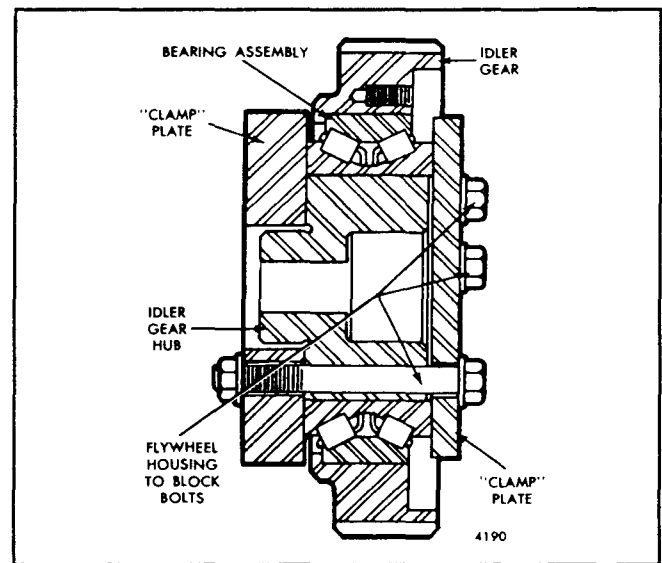
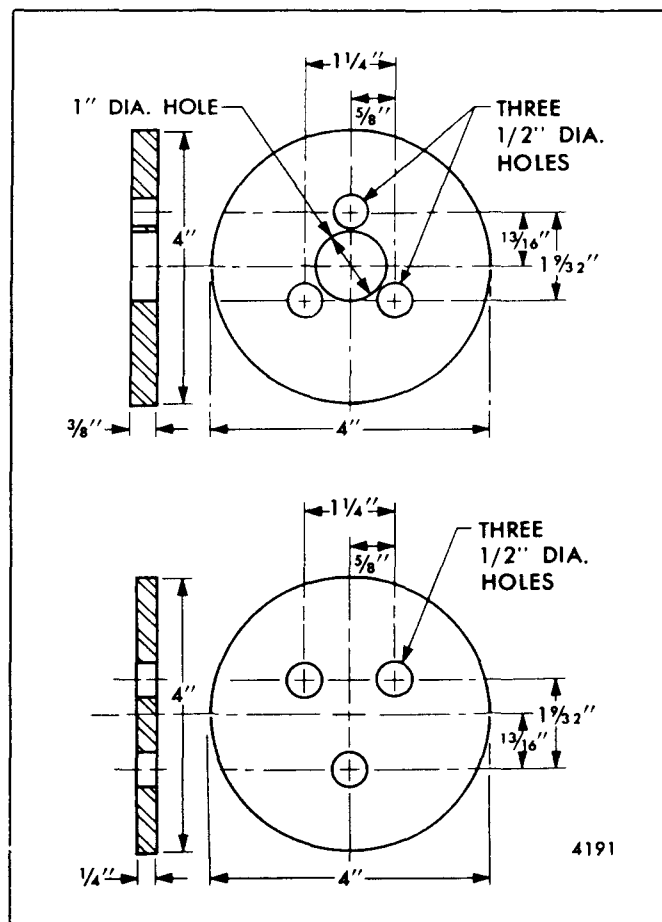

Fig. 10 - Fixture for Testing Bearing Pre-Load
Fig. 11 - Plates for Bearing Test Fixture
3. Place the steel plate (lower plate shown in Fig. 11) against the hub and bearing. Insert two 3/8"-16 bolts and one 5/16"-18 bolt through the plate and thread it into the cylinder block. Tighten the two 3/8"-16 bolts to 40-45 lb-ft torque and the 5/16"-18 bolt to 19-23 lb-ft torque.
If the crankshaft and camshaft gears are mounted on the engine, a suitable fixture which may be held in a vise can be made as shown in Fig. 10 with two plates as shown in Fig. 11. One of the plates is used to take the place of the flywheel housing and the other the cylinder block. *Engine - mounted* conditions are simulated by tightening the 3/8"-16 attaching bolts and nuts to 40-45 lb-ft torque.
1. Clamp the idler gear between the two plates as shown in Fig. 10. Insert the bolts and tighten the three 3/8"-16 bolts and nuts to 40-45 lb-ft torque.